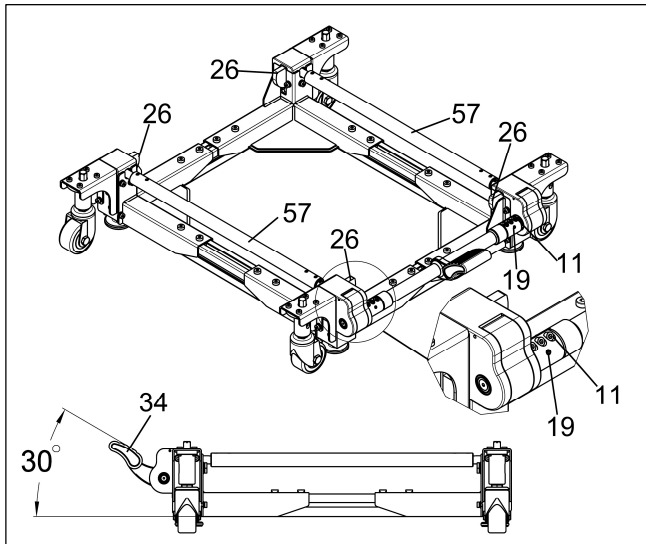

Fig.17
e. Rotate the couplings "57" to turn the cams "26" upwards to the limit. Adjust pedal (34) to a 30° angle tighten fasteners "11" and "19". (see **Fig.17**)
b. Step on the pedal "34". If the distance between the bottom of the pedal and the ground is too low for foot access, loosen fasteners "11" and "19" (as shown in **Fig.17**), adjust the pedal "34" upward to an appropriate position, and tighten the fasteners again. (see **Fig.17**)